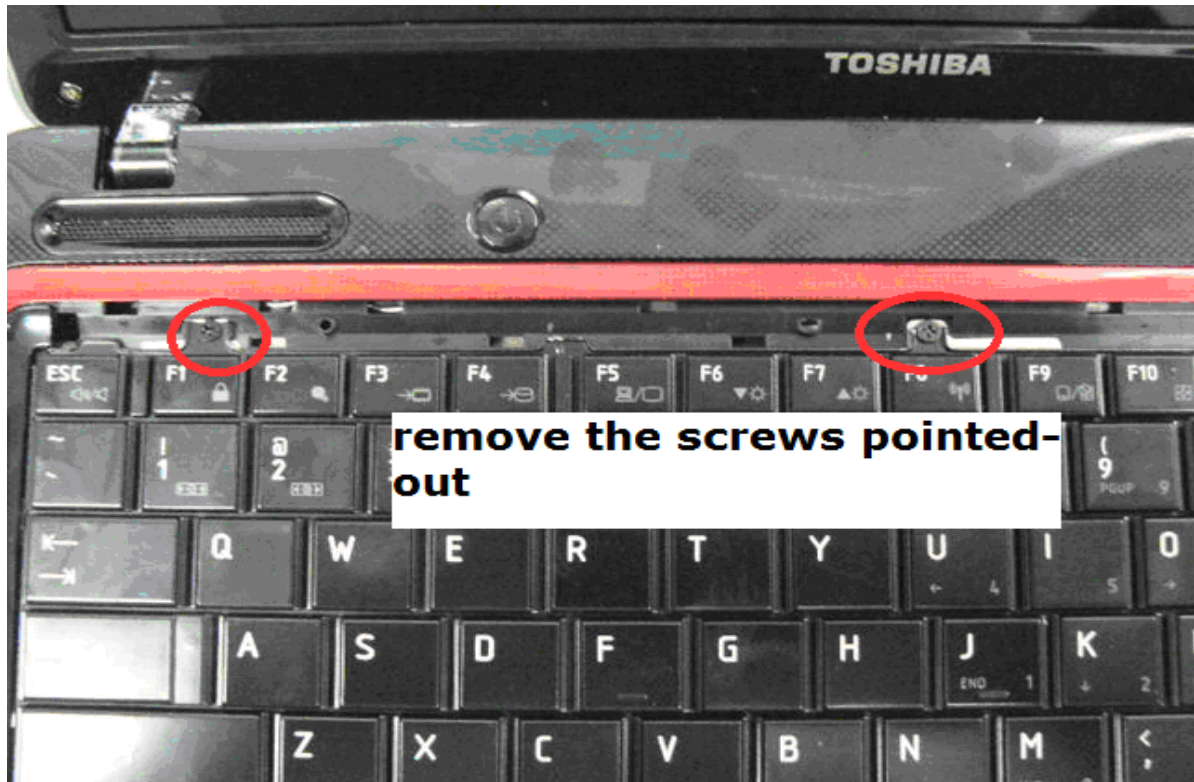

Figure 4-3-2 Remove keyboard screws
4. Remove SCREW M2.5*3.0F 2PCS which are used to fix keyboard.(see Figure 4-3-2)